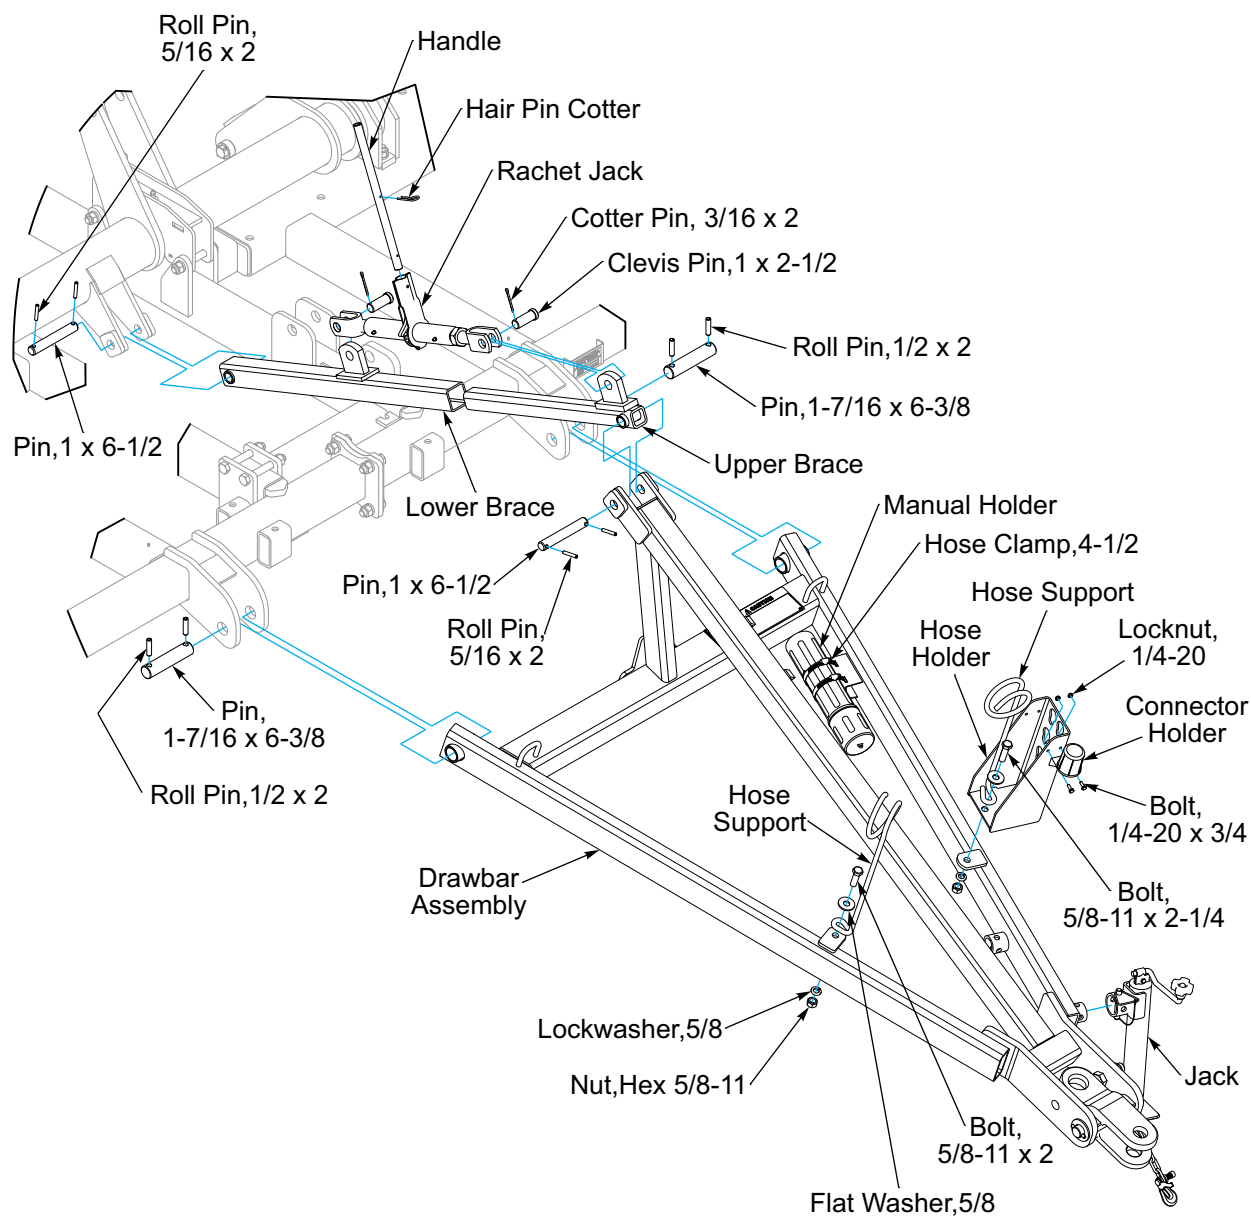

Figure 2-29: Drawbar Installation, 7 and 9 Shank Machines
1. Attach the Drawbar Assembly to the Frame Front Lugs with 1-7/16 x 6-3/8 Pins and secure with 1/2 x 2 Roll Pins. **See Figure 2-29.**
2. With the lugs up, slide the Upper and Lower Brace Tubes together. Install the Lower Brace Tube between the Rockshaft Lugs and Upper Brace Tube between the Drawbar Mast Plates with 1 x 6-1/2 Pins and secure with 5/16 x 2 Roll Pins. **See Figure 2-29.**